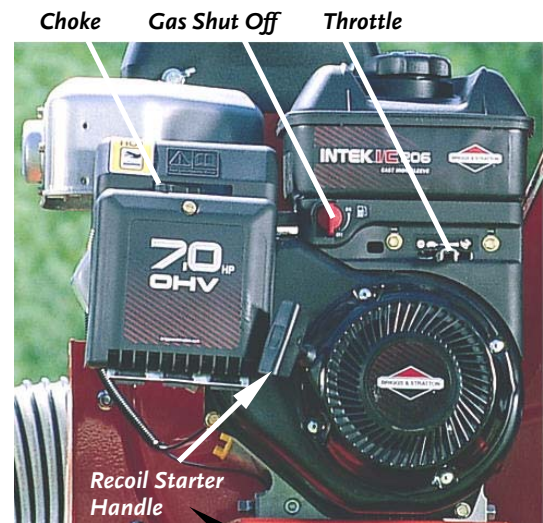

Figure 27
4. Turn the Gas Shut-Off valve to the OPEN position (**Figure 27**).
1. When starting a cold engine; push the Choke Control lever to the right (CHOKE) and the Throttle Control lever to the far right (**Figure 27**).
3. After the engine starts, slowly push the Choke Control lever to the left (RUN) position (**Figure 27**). Wait until the engine runs smoothly before each choke adjustment. For best engine performance, it is recommended that the engine be operated with the throttle in the fast (Rabbit) position (**Figure 27**).
4. **To stop the engine**, move the throttle to the slow (Turtle) position allowing the engine to idle, then move the lever to STOP (Stop Sign) position (**Figure 27**).